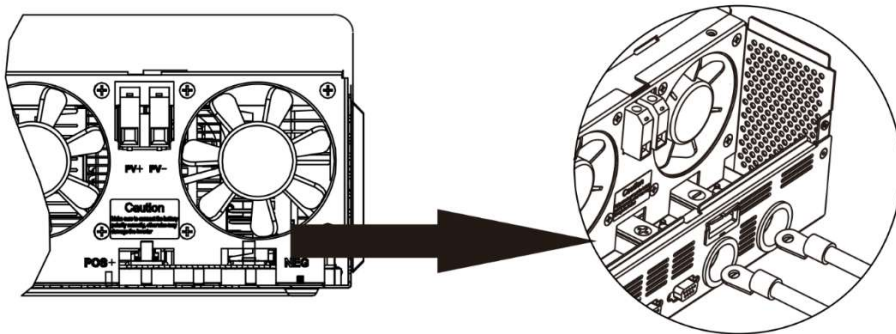

Fig. 6: Battery connection
- Remove the pre-installed nuts from the battery terminal bolts. Insert the ring terminal of the battery cables through the casing holes (cable glands for 120 Vac models) and flat onto the corresponding battery terminal (**Fig. 6**). Screw down the previously removed nuts with a torque of 2 ~ 3 Nm (1.5 ~ 2.2 lbf-ft). Ensure the ring terminals sit flush on the connectors.